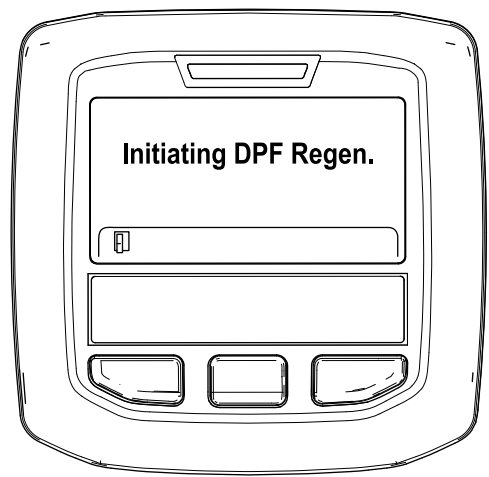

Figure 48
- A. The "Initiating DPF Regen." message displays (Figure 48).